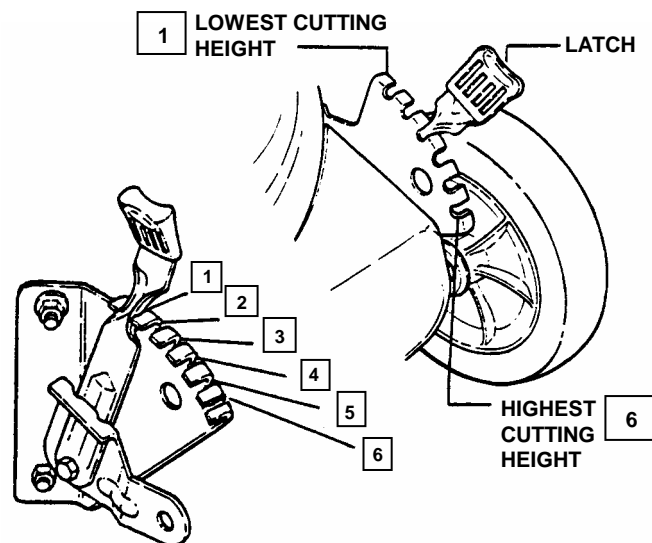

FIGURE 2.6
1. Pull the height adjusting latch outward and move to desired cutting height. See Figure 2.6.